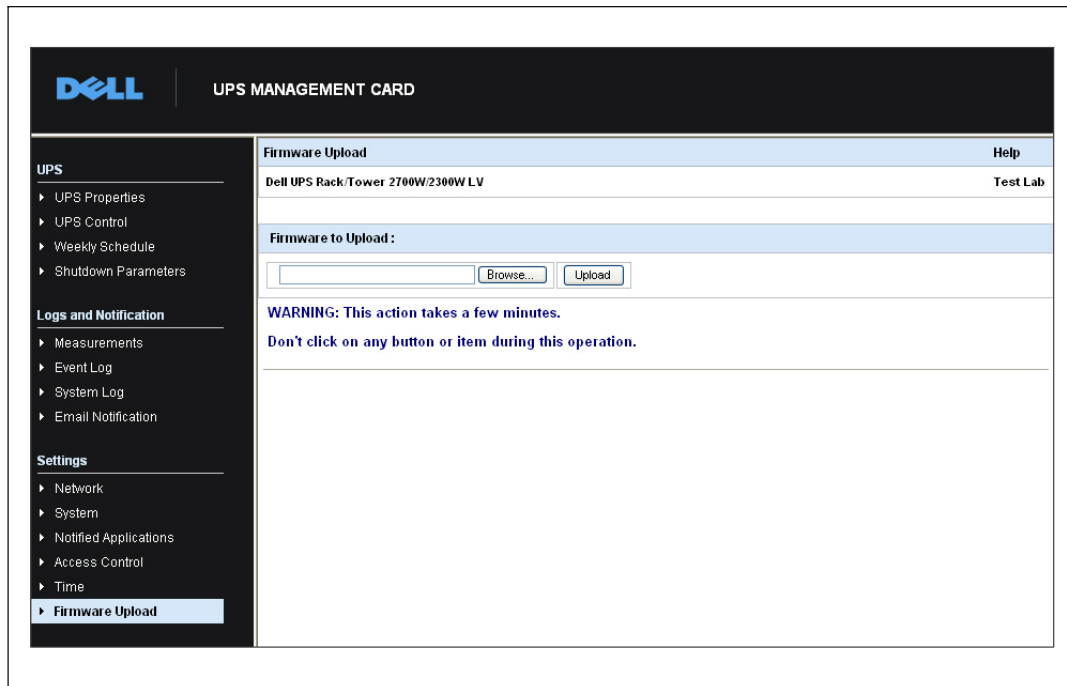

Figure 46. Firmware Upload Page
- 2 Click **Firmware Upload** from the menu bar to open the Firmware Upload page (see Figure 46).